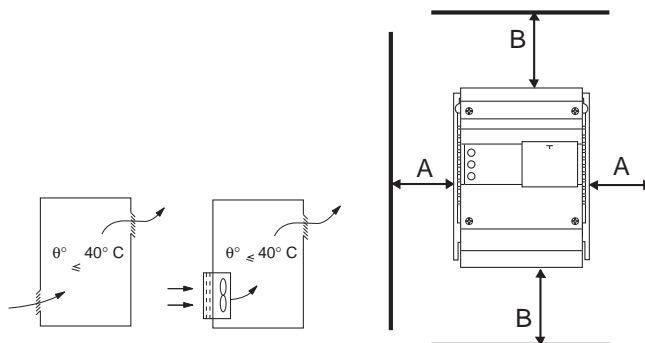

Figure 7: Ventilation and Clearances
- Leave sufficient space around the controller (see Figure 7): $A \geq 2$ in (50 mm), $B \geq 4$ in (100 mm).